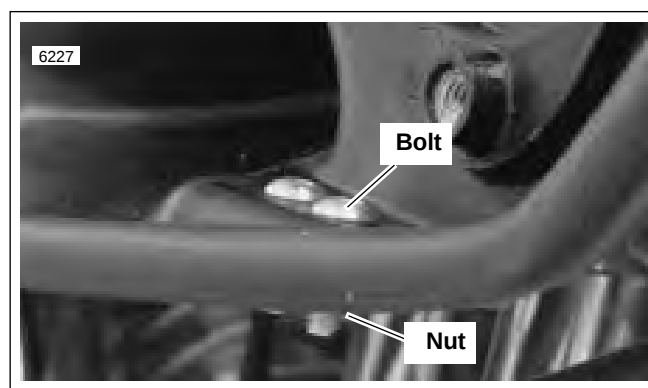
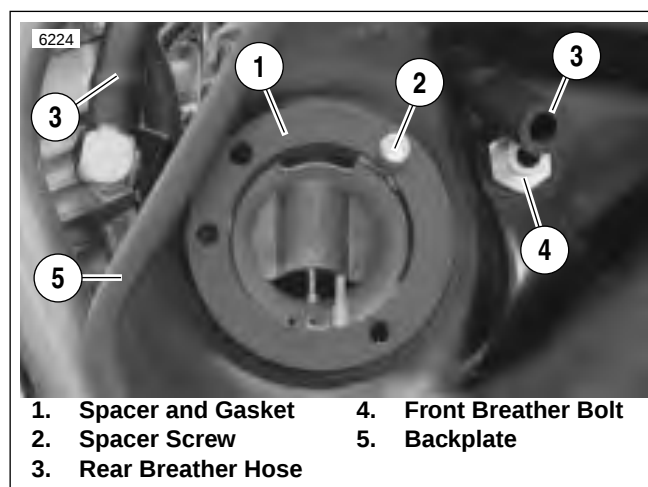

Figure 4-107. Air Cleaner Front Mount
Figure 4-108. Air Cleaner Spacer
- a. See Figure 4-107. Remove nuts (2) and bolts (1) from front mount.
- b. See Figure 4-108. Remove spacer screw (2) and spacer and gasket (1).
- c. Remove front breather bolt (4).
- d. Pull backplate (5) away from motorcycle and rear breather hose (3). On California models, slide fresh air inlet hose from carbon canister through backplate.
- b. See Figure 4-108. Slide rear breather hose (3) through backplate (5). On California models, slide canister fresh air inlet hose from carbon canister through backplate.
- d. Install front breather bolt (4). Tighten to 10-15 ft-lbs (14-20 Nm).
3. Apply LOCTITE THREADLOCKER 243 (blue) to spacer screw (2). Install spacer and gasket (1) using spacer screw (2). Tighten to 7-9 ft-lbs (10-12 Nm).
4. See Figure 4-107. Apply LOCTITE THREADLOCKER 243 (blue) to bolts (1). Insert bolts (1) through backplate and mount. Install nuts (2). Tighten to 3-5 ft-lbs (4-7 Nm).